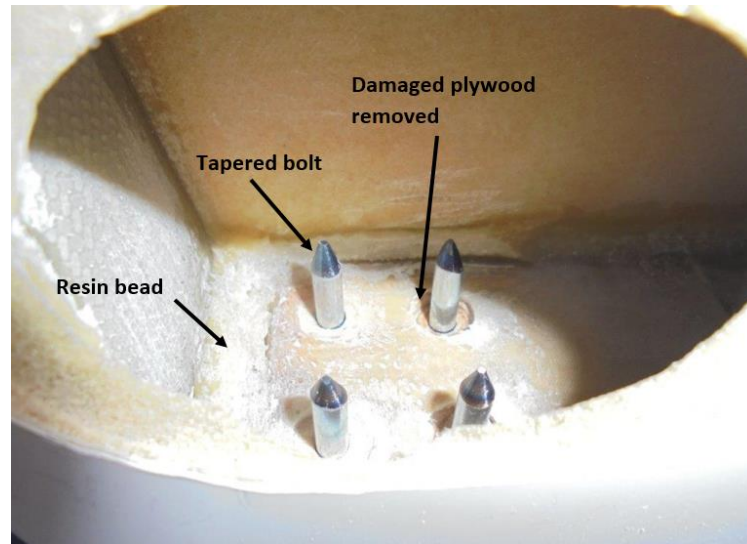

Figure 2: Insert damage removed and tapered bolts installed (principle image)
- 7.1.7 If required, remove the damaged fiber layers and plywood material around the bolt holes with a piloted counterbore, refer to Figure 2.
- 7.1.9 Install four tapered bolts through the holes in the rib. Wax the tapered bolts with release agent e.g. QZ5111 before installation. The tapered end must point outboard, refer to Figure 2. Verify that the repair plate (item 2 of Table 1) fits in the repair area properly. If required, trim the repair plate to fit, especially at the edge of the control rod hole.
- 7.2.7 If required, remove the damaged fiber layers and plywood material around the bolt holes with a piloted counterbore, refer to Figure 2.
- 7.2.9 Install tapered bolts through the holes in the flap rib. Wax the tapered bolts with release agent e.g. QZ5111 before installation. The tapered end must point inboard, refer to Figure 2. Verify that the repair plate (item 1 of Table 1) fits in the repair area properly. If required, trim the repair plate to fit, especially at the edge of the control rod hole.